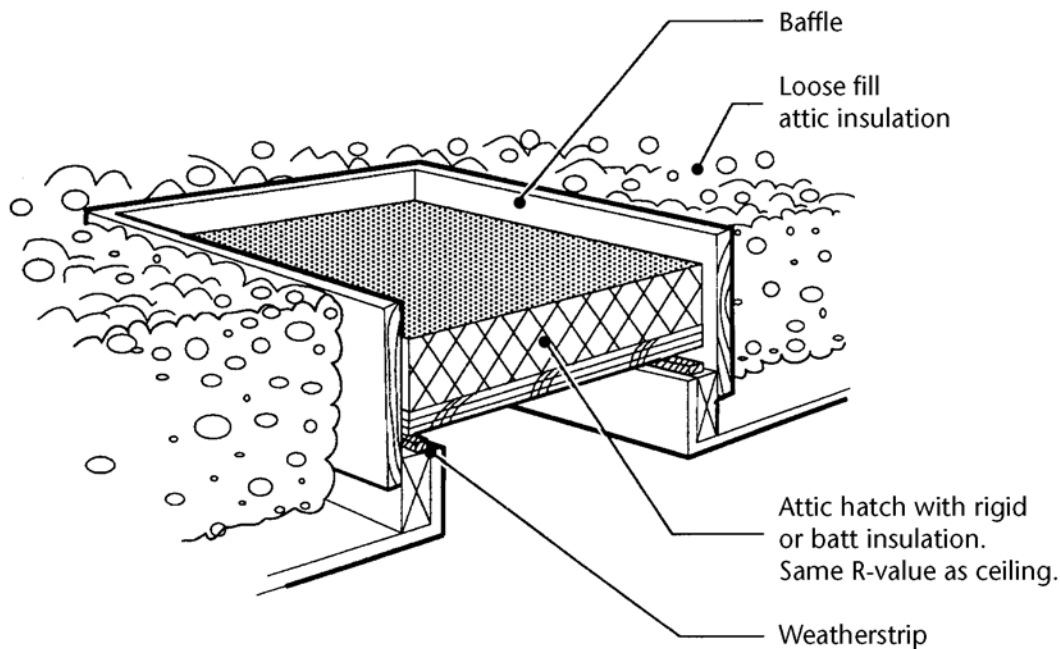

Figure 4-5
**Attic Access.** A baffle or dam around attic access hatch is also required when loose-fill or blown-in insulation is installed (see Figure 4-5). Requirements for access hatches and doors are: